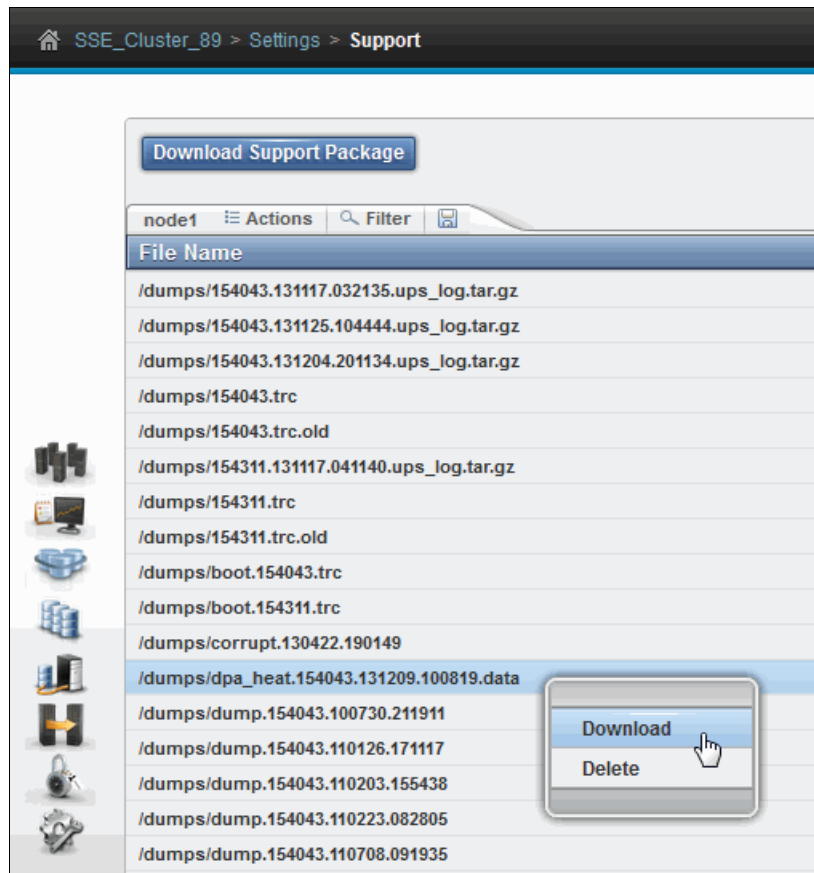

Figure 7-11 Downloading the `dpa_heat` file from the GUI
- Next, right-click the row for the `dpa_heat` file and choose **Download**, as shown in Figure 7-11.